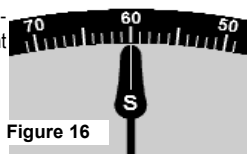

Figure 16
7. Read azimuth where the "S" end of needle points at the graduated circle. (Fig 16)